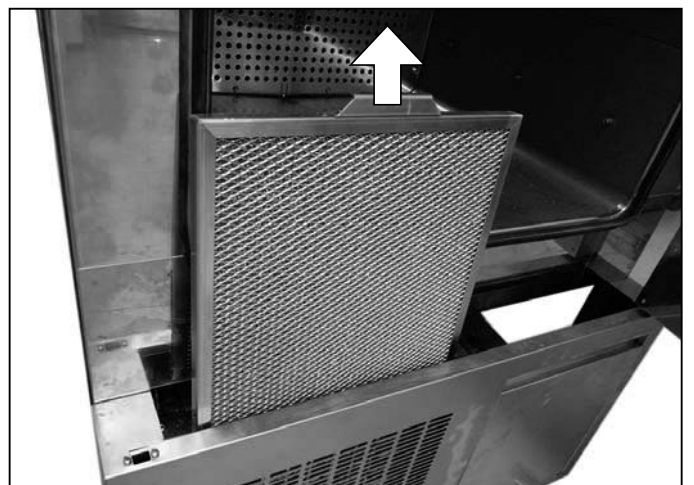

Fig. 41 Pulling out air filter
3. Pull out the filter by the handle on the top (Fig. 41).